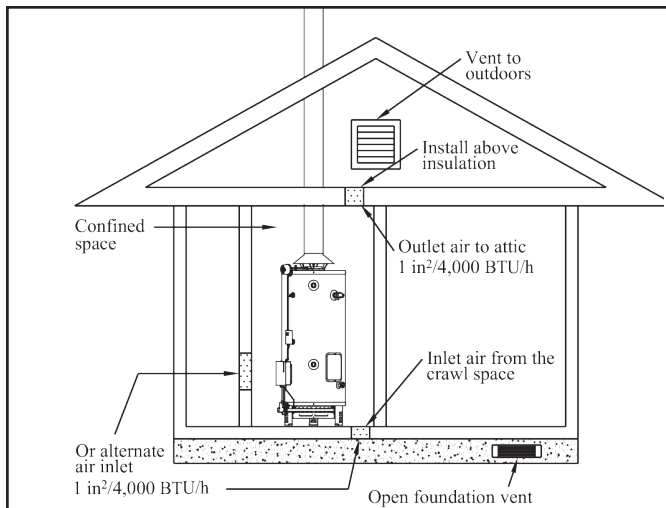

Figure 4 - Confined Space - Communicating Directly with Outdoors
1) When communicating directly with the outdoors, each opening shall have a minimum free area of one (1) square inch per 4,000 BTU/H (5.5 cm²/kW) of the total input rating of all gas appliances in the enclosure. See Figure 4.